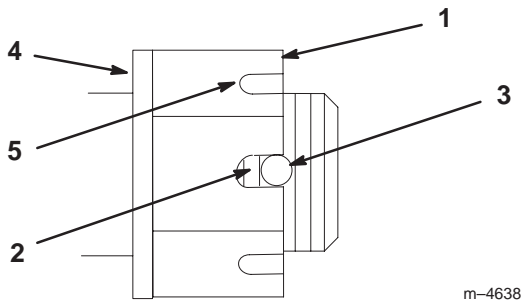

Figure 49
3. Torque the slotted nut to 125 ft.-lb. (170 N·m) (Fig. 49).
4. Check the distance from the bottom of the slot in the nut to the inside edge of the hole. Two threads or less should be showing (Fig. 49).
5. If more than two threads are showing, remove the nut and install a washer between the hub and nut (Fig. 49).
6. Torque the slotted nut to 125 ft.-lb. (170 N·m) (Fig. 49).
7. Tighten the nut until the next set of slots line up with the hole in the shaft (Fig. 49).